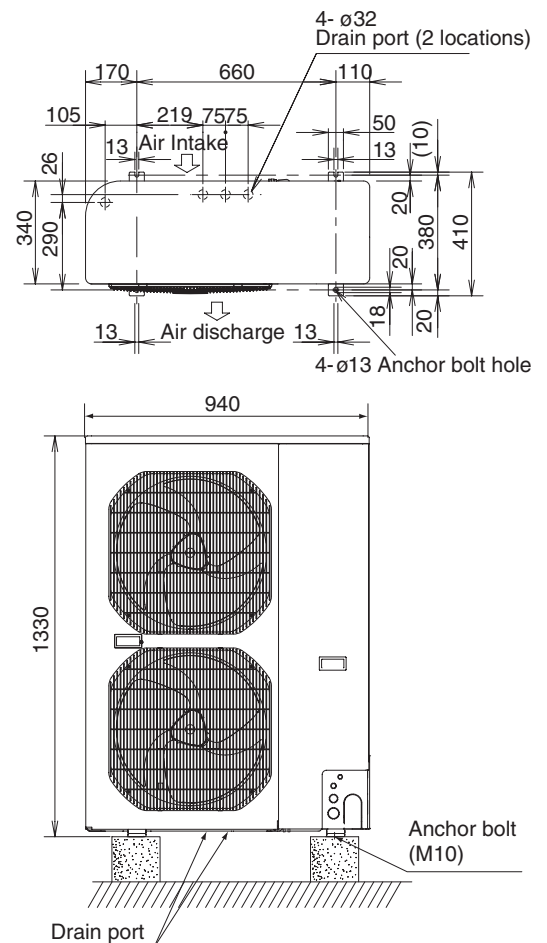

Fig. 2-20
- Refer to Fig. 2-20 for the anchor bolt dimensions.
- For the drain port dimensions, refer to Fig. 2-20.